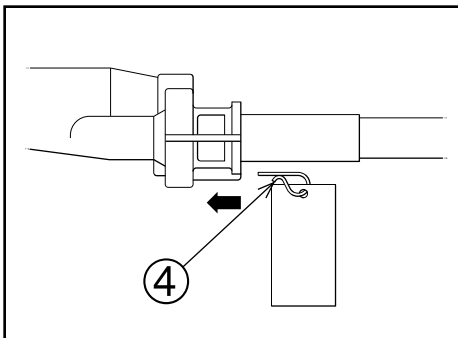
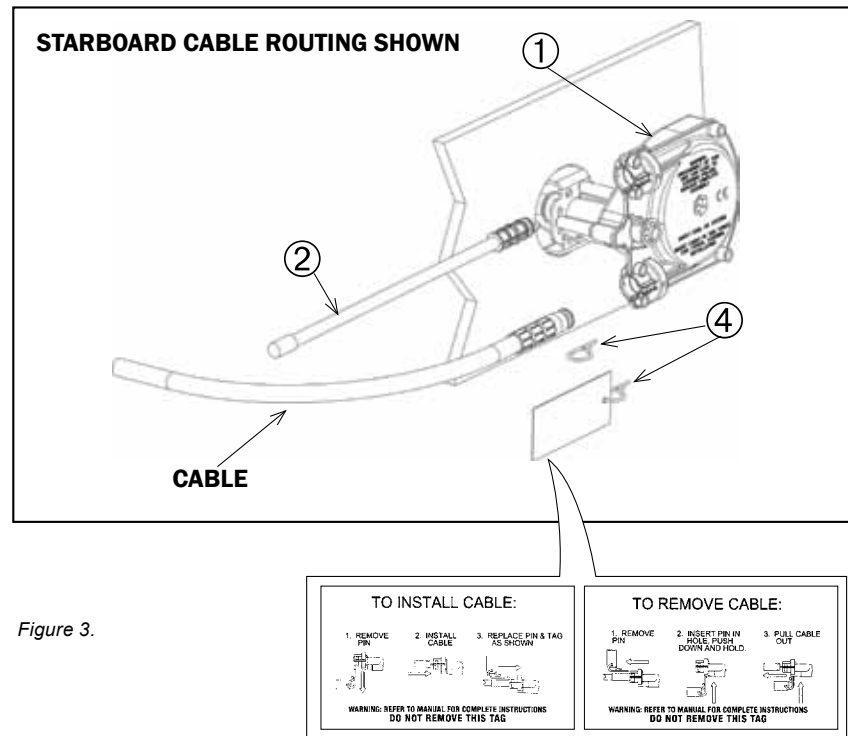

Figure 4.
Figure 3.
STEP 2. Remove protective sleeve from cable end, making sure that dirt does not get onto the lubricated cable end. Feed cable end into **LOWER** (starboard cable routing) helm entry spigot until it contacts the internal gear, then turn steering wheel to draw cable fully into the helm, (see Figure 3). Continue turning the wheel after the cable end enters the helm spigot. Some pressure will be felt and there will be an audible click as the locking mechanism engages. Continue turning past that point until the wheel cannot be turned any further. Turn steering wheel fully in the other direction until it cannot be turned any further, check that cable end fitting is retained inside the entry spigot.
STEP 3. Replace pin as shown in Figure 4, making sure that it is fully seated. If pin cannot be inserted, the cable is not fully seated in the helm. Push on cable to ensure that it is fully home. **DO NOT REMOVE TAG FROM PIN.**
STEP 5. Feed spent travel tube (item 2, Figure 3) over the exposed cable end until you hear it click into place in the helm spigot. Then insert pin as shown in Figure 4 until it is fully seated.